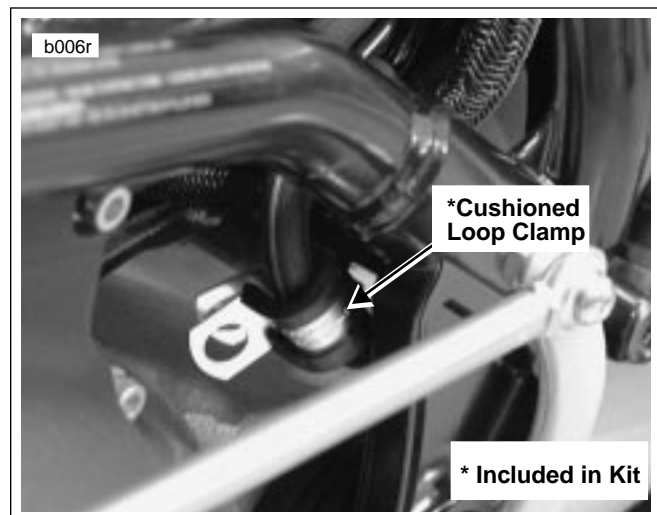

Figure 3. Loop Clamp Orientation Before Installation
19. See Figure 3. Install loop cushioned clamp provided in kit to brake line and then to bolt side of tie bar fasteners. Loop clamp is oriented down and to the left. Install tie bar to frame with bolt, washer and loop cushioned clamp on lower side of tie bar and **new** locknut on upper side of tie bar. Tighten to 30-33 ft-lbs (40.7-44.7 Nm).